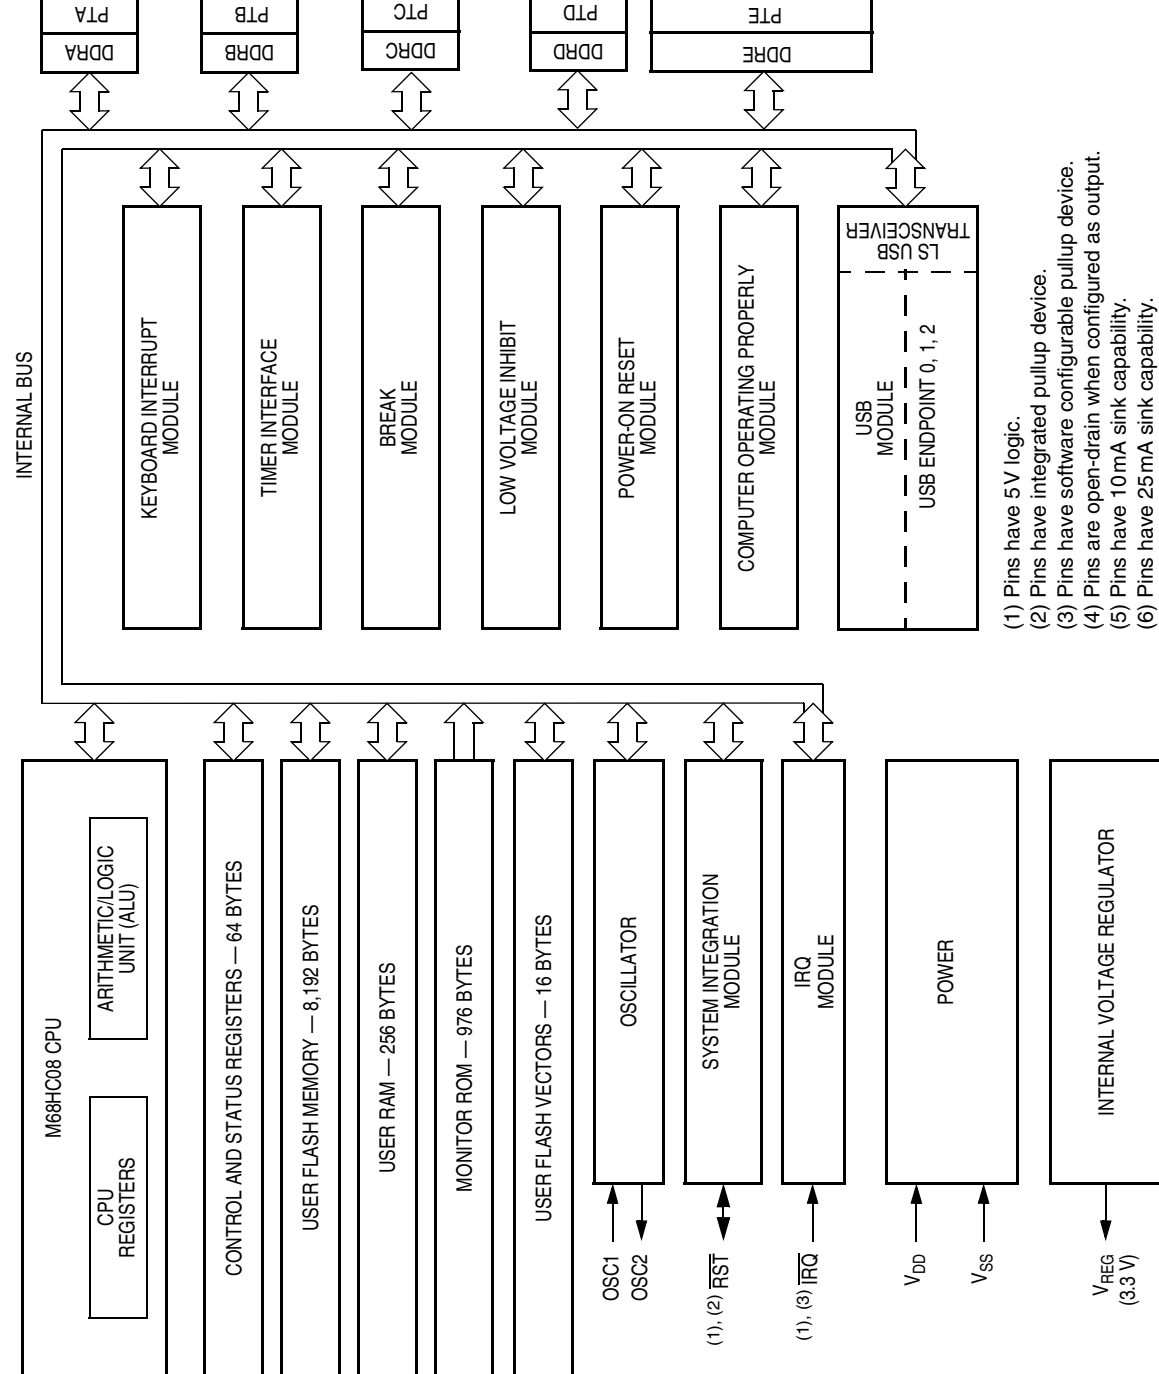

Figure 1-1. MCU Block Diagram
**Figure 1-1** shows the structure of the MC68HC908JB8.